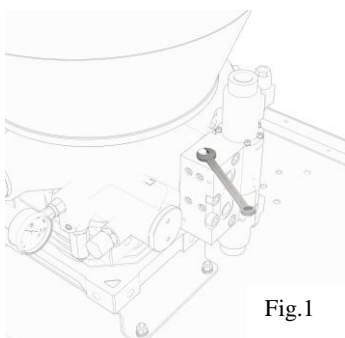

Fig.1
- In the event that there is pressure in the system, loosen the plugs indicated (Fig. 1 and 2) to discharge the pressure. Take care for the slight lubricant leak. Once the residual pressure has been eliminated, close the plugs.